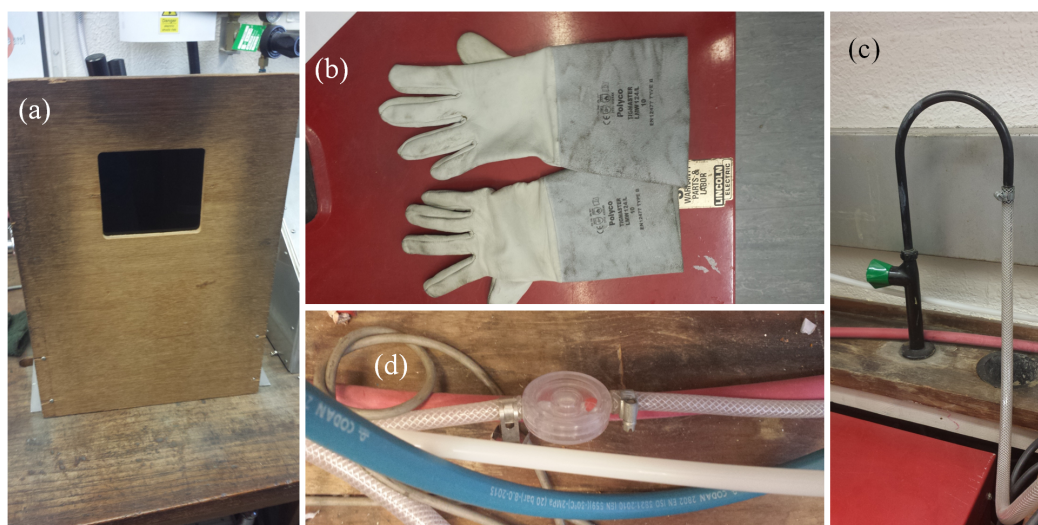

Figure 6: (a) UV shield placed in front of arc furnace. (b) Heat resistance gloves. (c) Tapes used to turn the water on and (d) gauge of the water flow.
**Step 8:** Place the shield in front of the arc furnace (Fig 6(a)).
**Step 9:** Put the heat resistant gloves on (Fig 6(b)). You now have to turn the water on using the tap (Fig. 6(c)). Behind the arc furnace is a small plastic case with a red ball in it (Fig 6(d)). This is used to gauge the water flow. Ensure the red ball is going around before proceeding at a reasonable rate, 1 click per second is normally fine.